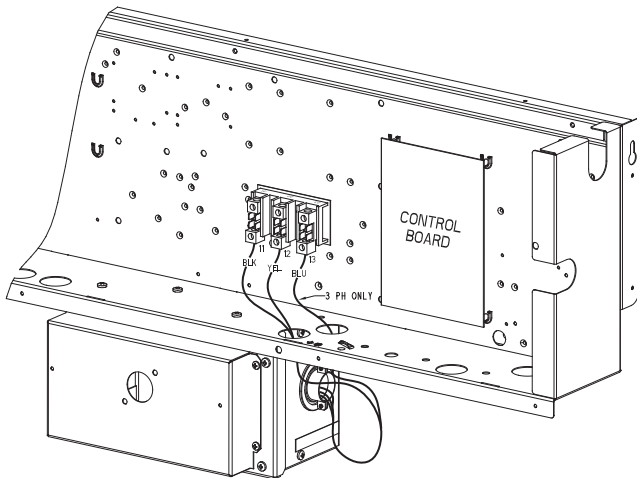

Fig. 27 — NFD Enclosure Location
1. Remove the Control Box access panel. The NFD enclosure is located below the Control Box (see Fig. 27).